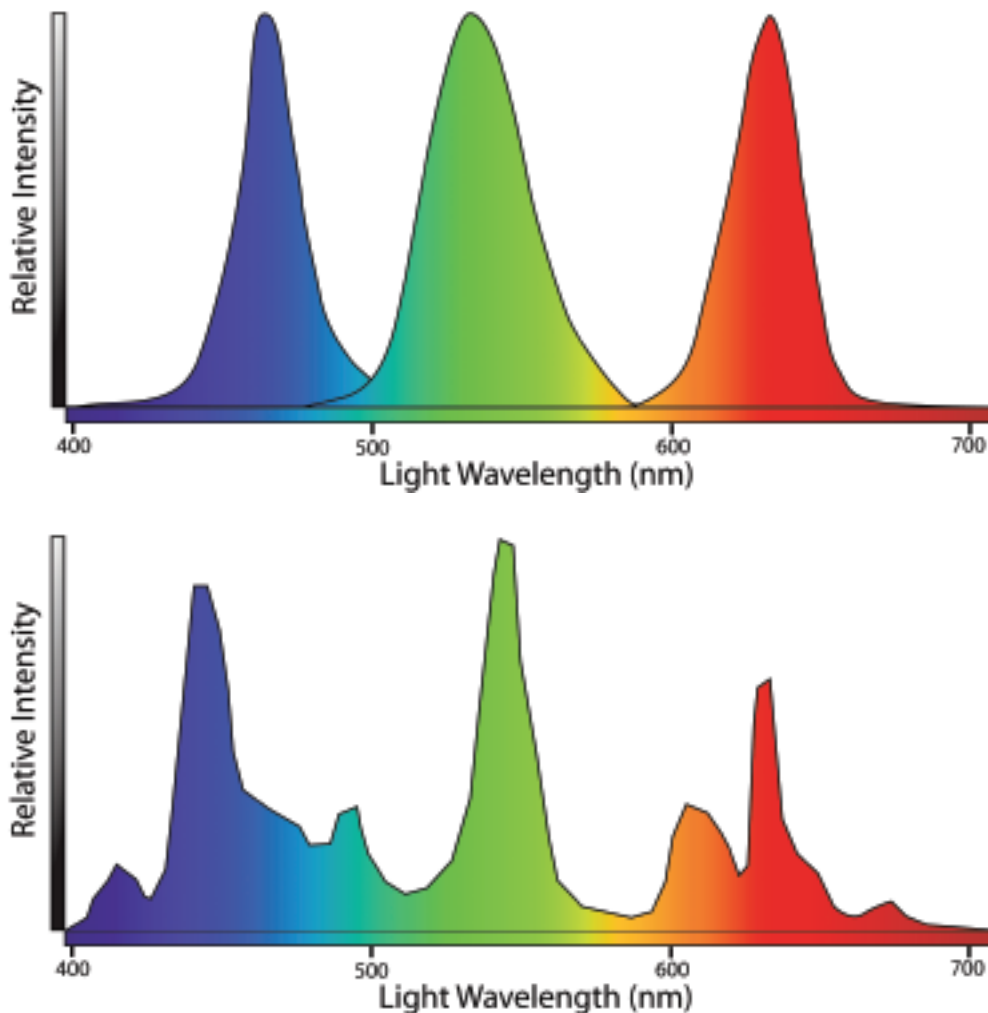
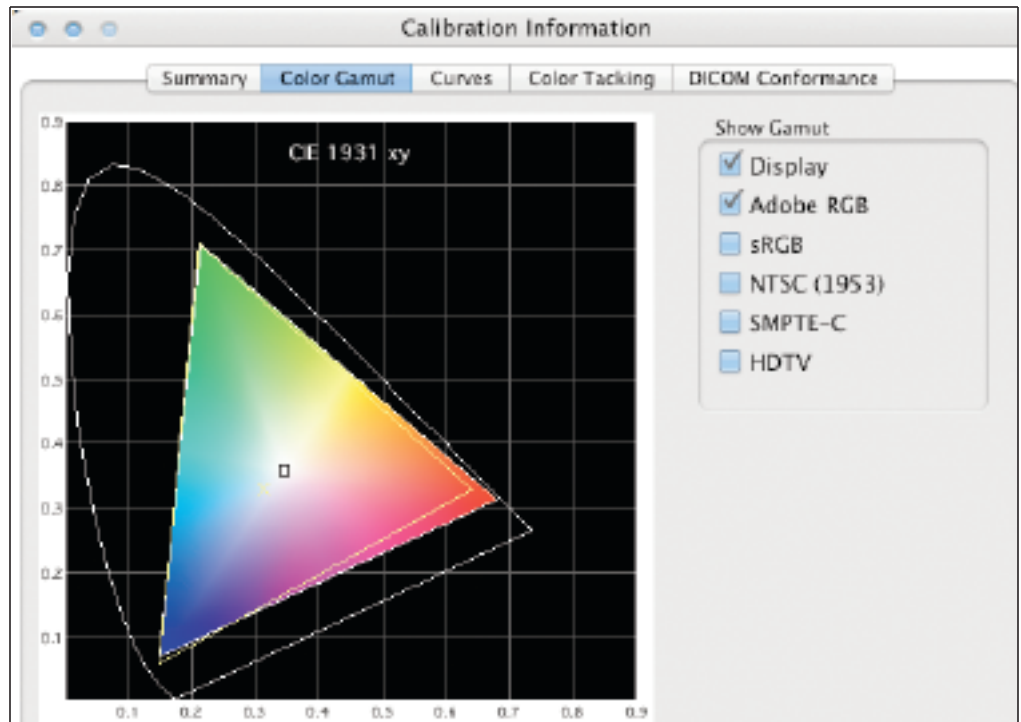

Figure 1: A spectral representation of the LED light source (top) compared to that of CCFL.
Figure 2: The SpectraView II software plots the gamut of the NEC 2180 WG LED over that of Adobe RGB (1998).
**Figure 1** shows how LEDs produce impressively pure light, as well as the extended color gamut. The gamut of the LCD 2180 WG LED exceeds that of Adobe RGB (1998)! Working in such a large color space means photographers can view every color in their images that can be contained within this color space. There's at least one other LCD manufacturer producing a wide-gamut LCD display using fluorescent backlighting, but LEDs have a number of technological advantages. First, the spectrum of fluorescent light is far from ideal, producing unwanted colors that require filtration, and that results in reduced luminance. **Figure 2** illustrates another reason such a wide gamut is possible with a comparison of the display's gamut to Adobe RGB.